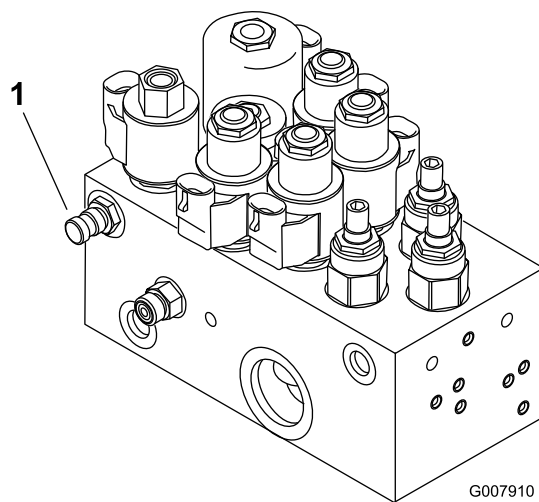
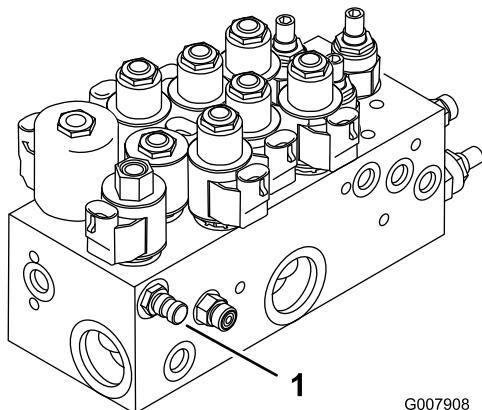

Figure 78
Figure 77
1. Test Port A (Figure 77 and Figure 78) is used to assist in trouble shooting the hydraulic circuit for the lift cylinders.